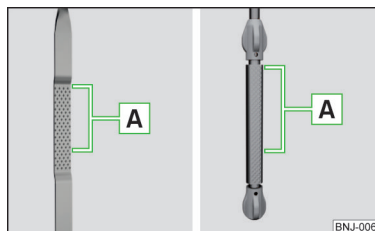

Fig. 147
Dipstick » Fig. 147
- The oil level must never be above the range **A** » Fig. 147 - risk of damage to the motor as well as the exhaust system!